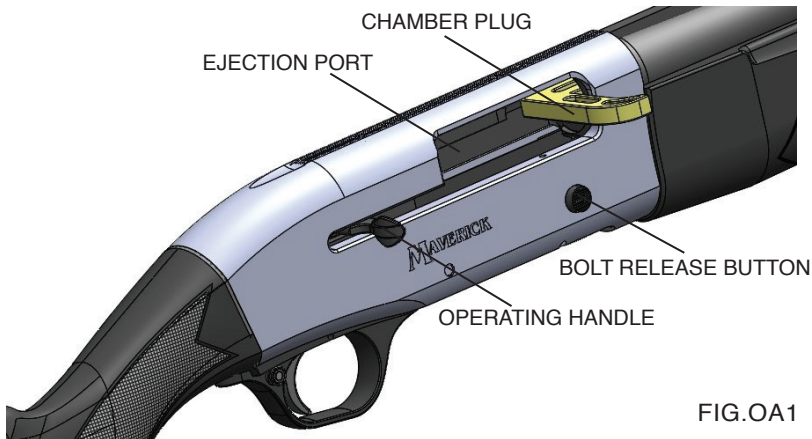

FIG.OA1
2. Pull the Operating Handle fully rearward in one quick motion. When released, the Bolt will move slightly forward (towards the muzzle) and lock in the open position. Check FIG.OA1 for reference.
Keep fingers clear of the operating handle and the ejection port when closing the action. FIG.OA1
With the safety button in the “ON” (SAFE) position, and the muzzle pointed in a safe direction, press the bolt release until the action releases. FIG.OA1